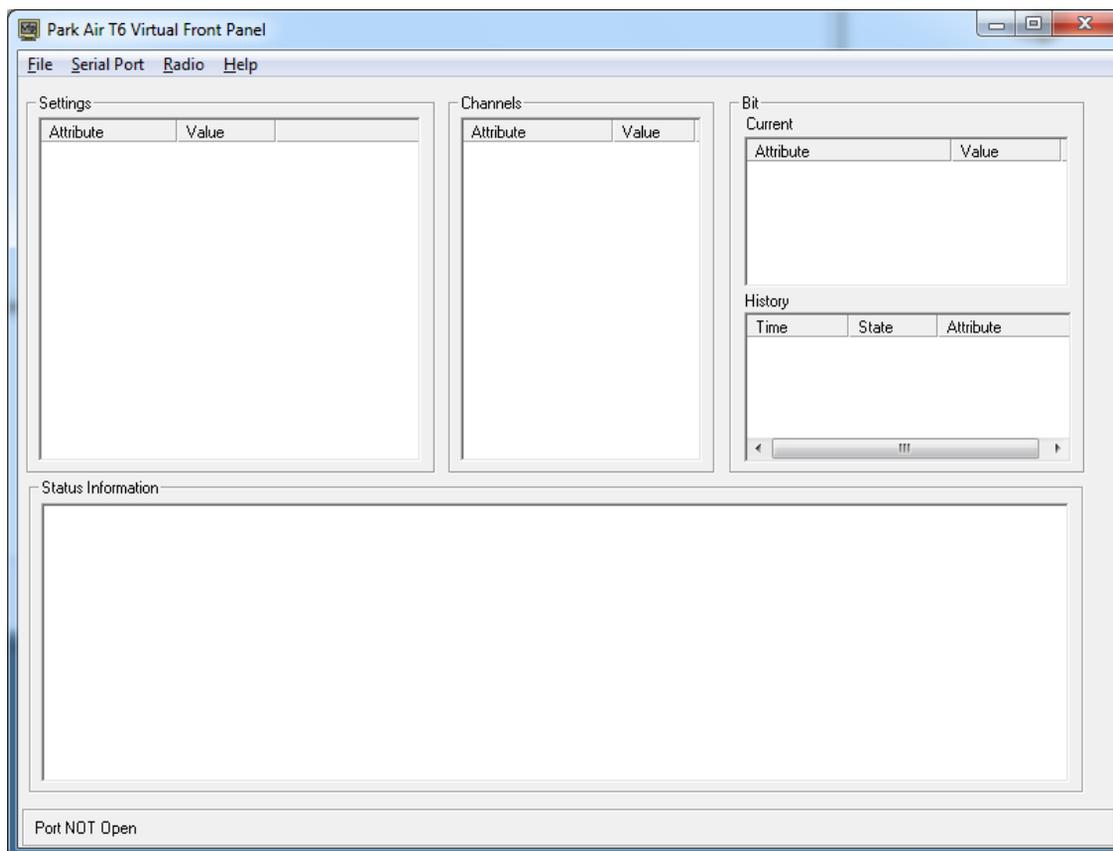

Fig 5-4 Blank VFP Screen
- (1) Using a PC to radio interconnection lead, Park Air part number 17E12600001, connect the radio's front panel Headset/Microphone/Diagnostics connector to the PC's Com Port (note which Com Port is used).
- (2) Run up the VFP software and check that a blank VFP screen (Fig 5-4) is displayed.